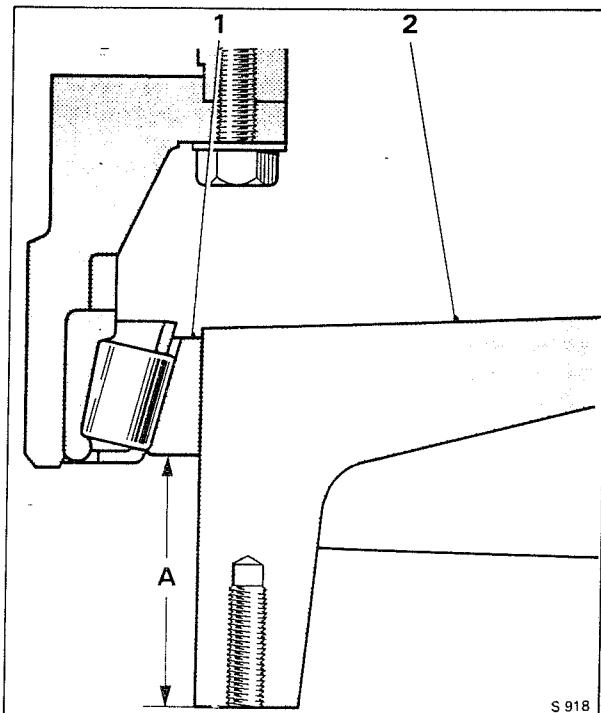

Fig. J9 Casing flange to bearing measurement
22. Accurately measure the distance from the casing flange to the taper roller bearing outer track (see Fig. J9)